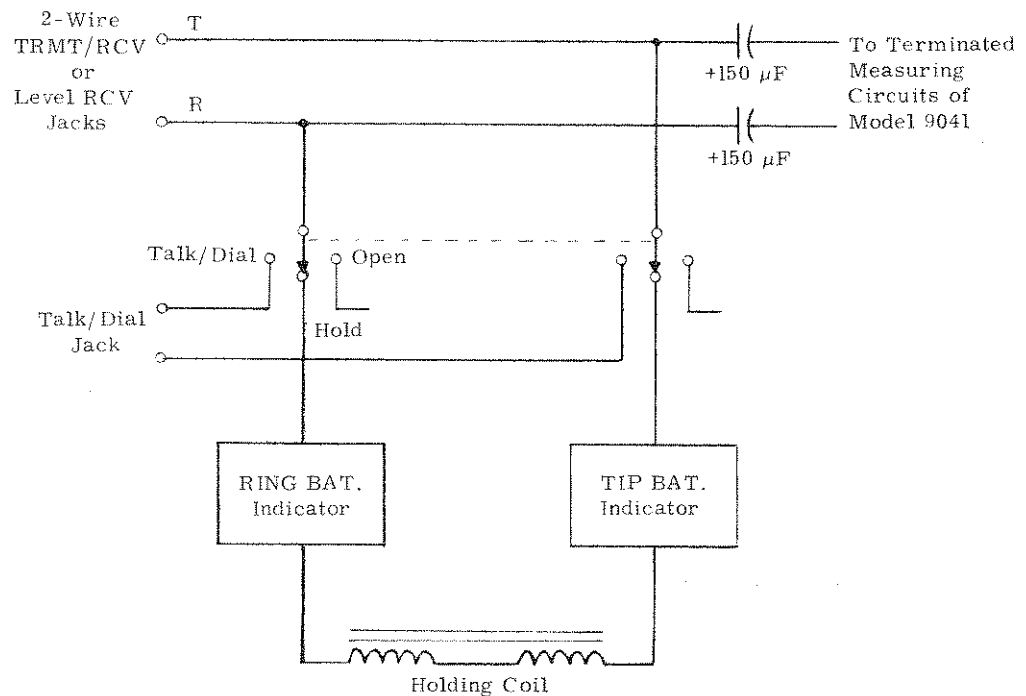

Figure 2-1. Outgoing Trunk Supervision Circuit, Simplified Diagram
2.05 A simplified diagram of the Outgoing trunk supervision circuit is shown in Figure 2-1. For 2-wire Outgoing trunk measurements, the desired circuit is dialed with the TALK/DIAL, HOLD, OPEN switch in the TALK/DIAL position. The TALK/DIAL switch is then set to the HOLD position to provide a path for the dc loop current through the holding coil.